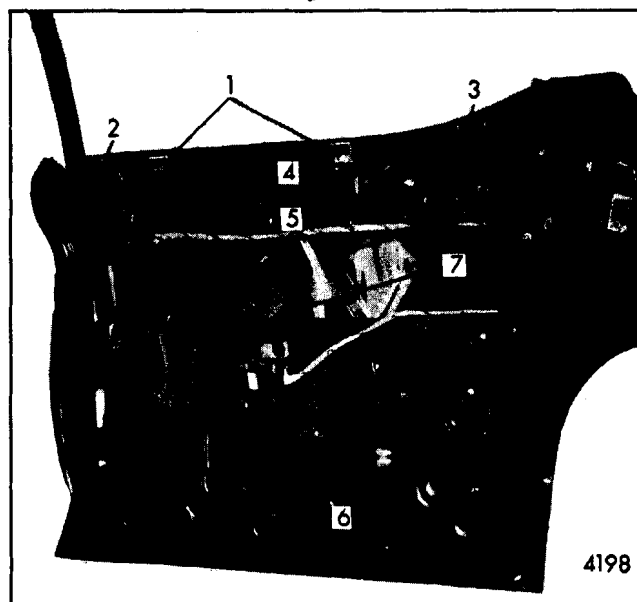
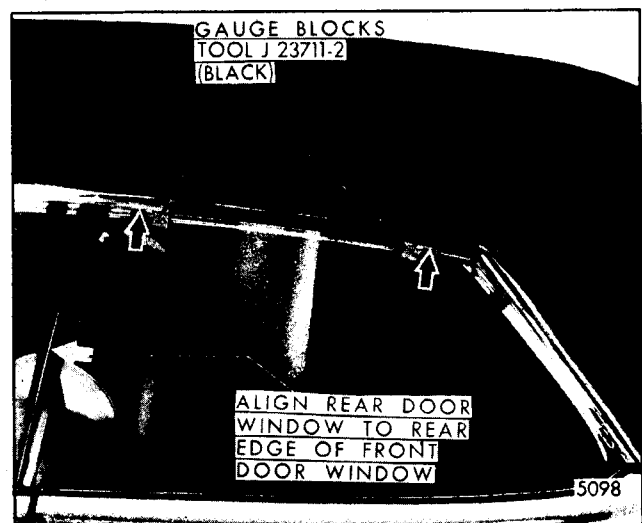

Fig. 6-121-Rear Door Window Removal and Adjustments - "B and C-39-49" and "C-69", Except 68169 Styles
Figure 6-123 - Rear Door Window Alignment
2. With glass in a partially down position, loosen front and rear window stabilizer strips ("1", Figure 6-121) and up-travel stops ("2" and "3", Figure 6-121). Then rotate the stops sufficiently to allow glass to bypass stops when removing.
3. With window in a partial-down position, remove lower sash guide plate to glass attaching stud nuts ("7", Figure 6-121), then tilt upper edge of glass inboard to disengage guide plate from studs from glass. Remove glass from door by lifting rear edge of glass upward, then slide glass rearward to align guide plate studs with notch provided at rear of door inner panel.
1. In-and-out adjustment of the glass is controlled by the position of the upper end of the center guide and the position of the glass stabilizer strips. The upper attaching locations in the center guide support ("5", Figure 6-121) and door inner panel
("1", Figure 6-121) are slotted to permit in-and-out adjustment of the guide and stabilizer strips, respectively.
2. Fore-and-aft adjustment of the window assembly is controlled by the position of the upper center guide support. The upper attaching locations in the upper center guide support ("4", Figure 6-121) are slotted to permit fore-and-aft adjustment of the guide.
3. Ease of window operation and window stability depends to a great extent on the adjustment of the window stabilizer strip assemblies ("1", Figure 6-121).
4. A window that is rotated (cocked) in the window opening may be the result of an improperly adjusted lower sash guide plate ("7", Figure 6-121) or poorly adjusted up-travel stops ("2" or "3", Figure 6-121).
5. The up-travel of the window is determined by the adjustment of the front and rear up-stops ("2" and "3", Figure 6-121). To adjust window up-travel, loosen front and rear up-stops and operate window to desired position to establish proper glass to side roof rail weatherstrip contact. Tighten up-stop attaching bolts.
2. Detach the side roof rail weatherstrip at the lower rear corner (screw retained at rear edge) and carefully remove from the retainer over the door window, as shown in Figure 6-123.
into the side roof rail weatherstrip retainer above the upper front and rear corners of the glass, as shown in Figure 6-123.
4. Working from inside the body, with the door in the closed position, loosen front and rear up-travel stops ("2" and "3" Figure 6-121) and stabilizer strips ("1", Figure 6-121).
If upper edge of glass contacts both gauge blocks simultaneously (refer to Figure 6-123), proceed with step number six (6).
If upper edge of glass does not contact both blocks simultaneously, completely loosen lower sash guide plate stud nuts ("7", Figure 6-121) and manipulate the glass until the upper edge of glass contacts both blocks in the full-up position. Tighten guide plate stud nuts.
6. Raise rear door window assembly until contact is established between upper edge of glass and both upper gauge blocks. Then, raise front door window assembly. If the front edge of the rear door window assembly is properly positioned in relation to rear edge of front door window assembly, as shown in Figure 6-123, proceed with step number seven (7). If rear door window assembly is not properly positioned in relation to front door window assembly, loosen fore and aft adjustment on guide cam support "4", Figure 6-121) and move glass forward or rearward as necessary.
7. Completely loosen upper end of (center) guide cam support ("5", Figure 6-121). Apply firm outboard pressure against the upper end of the guide cam to remove slack in the system and to hold the upper inner edge of the glass inboard against the outer edge of the gauge blocks, as shown in Figure 6-123. Then, tighten (center) guide cam support attaching bolts.